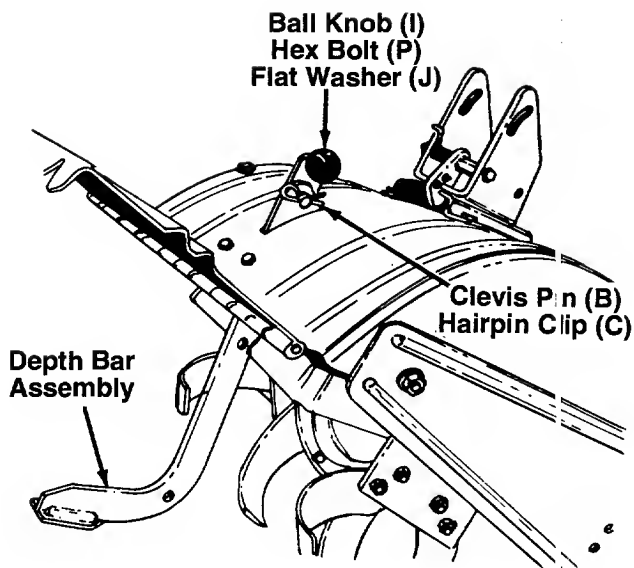
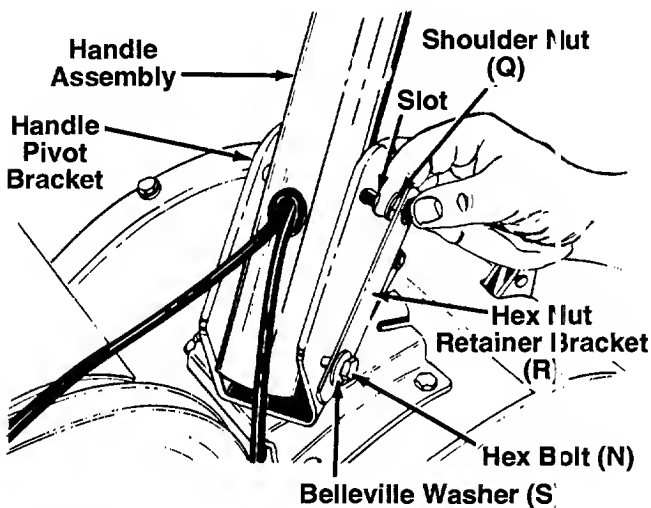

FIGURE 3.
FIGURE 4.
4. Tip the tiller forward so it rests on front counterweight. See figure 3.
5. Raise the tine shield hinge flap assembly. Insert the depth bar assembly between the two shoulder bolts and up through the tine shield assembly as shown in figure 3.
6. Insert clevis pin (B) through the tine shield and depth bar assemblies. Secure with hairpin clip (C). See figure 3.
7. Insert hex bolt (P) into the upper hole of the depth bar assembly. Place flat washer (J) onto the hex bolt and thread ball knob (I) onto the hex bolt. See figure 3. Tighten securely.
9. Place belleville washer (S) onto hex bolt (N) (crown side of washer goes against the bolt). Place hex nut retainer bracket (R) on hex bolt (N), using the round hole in retainer bracket.
10. Place handle assembly in position in the handle pivot bracket. Line up the holes in handle assembly with the holes (and slots) in the pivot bracket. See figure 4.
11. Insert hex bolt (with washer and hex nut retainer attached) through the bottom holes on the handle pivot bracket and handle assembly. Head of the hex bolt should be to the left hand side of the unit. See figure 4.
12. Place shoulder nut (Q) between hex nut retainer bracket and pivot bracket. See figure 4.